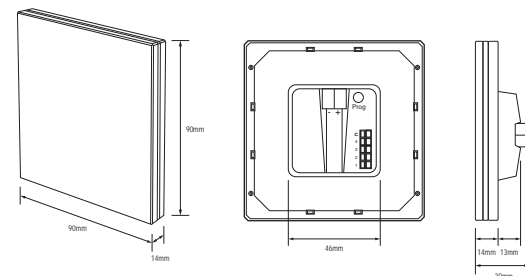

Fig. 4
- 2 - Connect the bus line to the KNX connector (B) respecting the polarity.
**DIMENSIONS (Fig. 4)****COMMISSIONING**
- 2 - Conecte al terminal de conexión KNX (B) los dos hilos del Bus, respetando la polaridad.
**DIMENSIONES (Fig. 4)****PUESTA EN MARCHA**